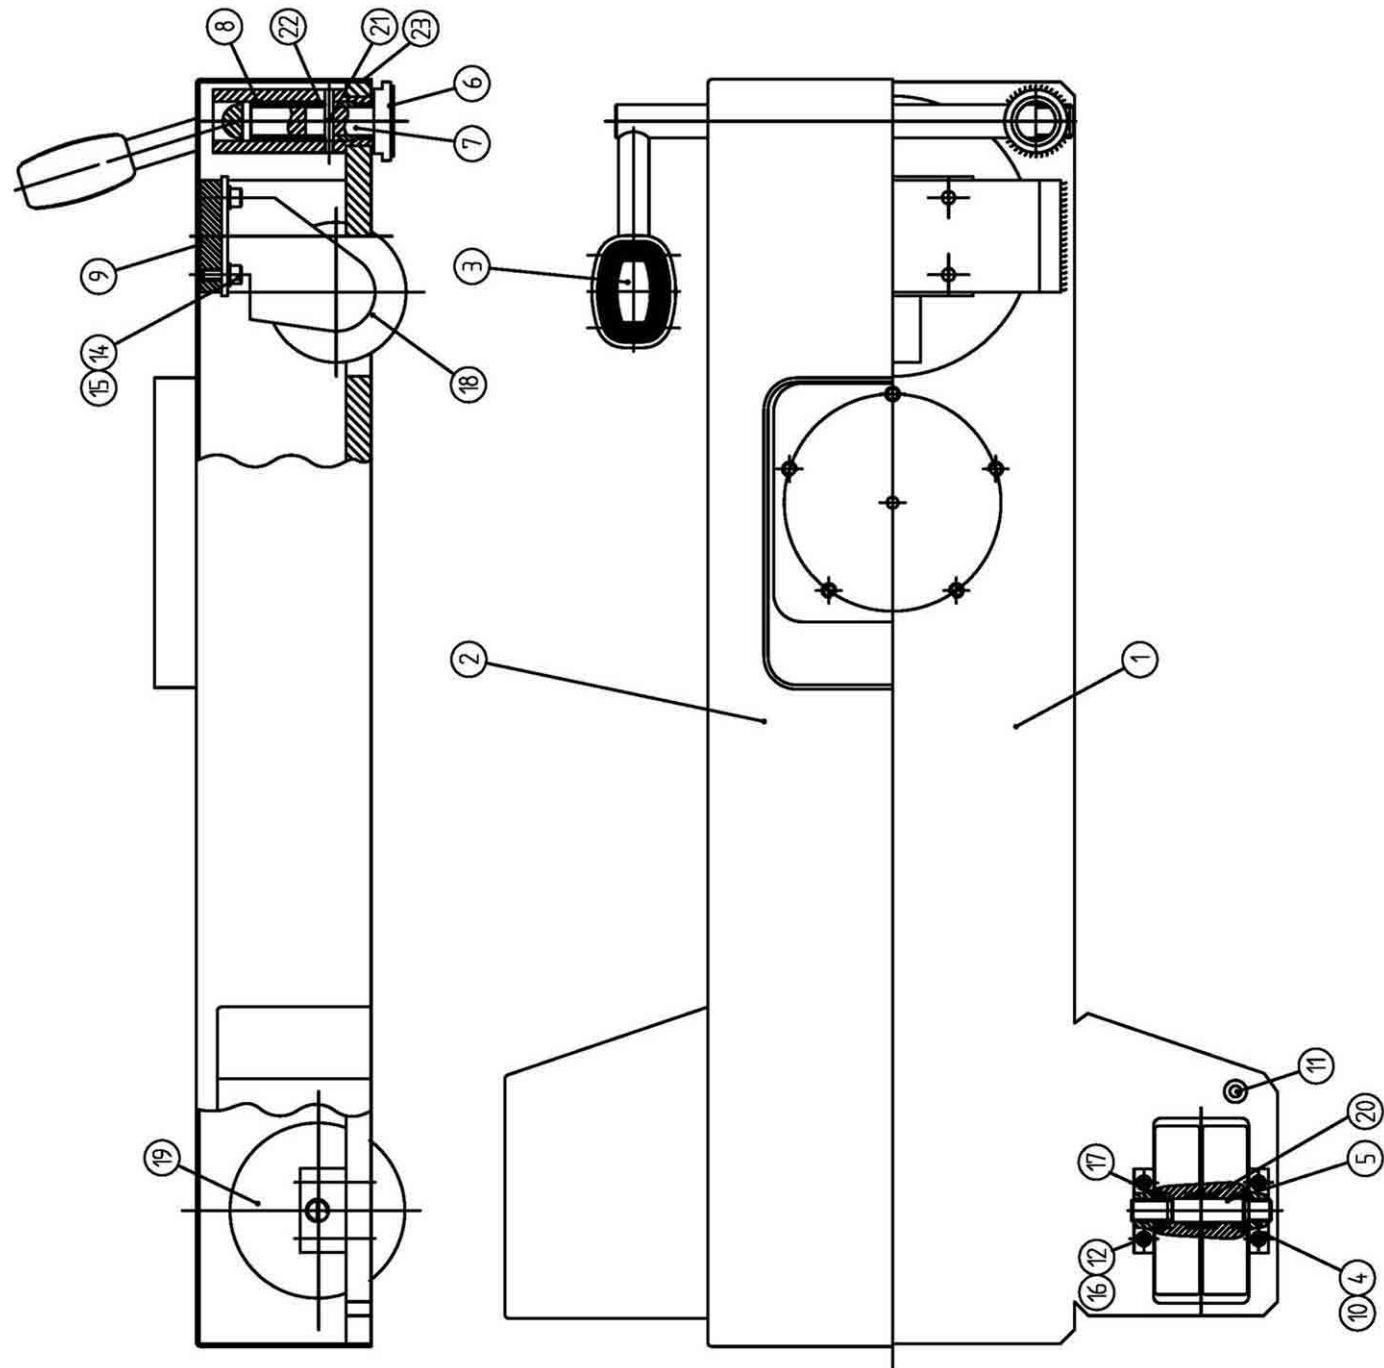

Fig. 12 Base of the table set (in standard version)
### Disassembly of rotating wheel (item 18 on fig. 12)
7. Unscrew M6 screws (item 11 on fig. 12).
8. Unscrew the lock pedal (item 3 on fig. 12) [turning it to the left] and remove it from the basis,
9. Lift the protection set (item 2 on fig. 12),
10. Unscrew M8 screws (item 14 on fig. 12) and remove them with the washers (item 15 on fig. 12),
11. Remove the wheel (item 18 on fig. 12).
### Assembly of rotating wheel (item 18 on fig. 12)
1. Put the wheel (item 18 on fig. 12) on the framework of the basis and screw M8 screws with washers (item 14, 15 on fig. 12),
2. Place the cover set (item 2 on fig. 12),
3. Screw the lock pedal (item 3 on fig. 12) (screw it to the right till resistance is felt and then unscrew by two rotations),
4. Screw M6 screws (item 11 on fig. 12) which fix the cover to the plate set (item 1 on fig. 12),
Disassembly of non-rotating wheel (item 19 on fig. 12)
1. Perform activities according to items 1 ÷ 6 of instructions for ‘Disassembly of a rotating wheel (item 18 on fig. 12)’,
2. Unscrew M6 screws (item 12 on fig. 12) and remove washers (item 16 on fig. 12),
3. Take out the wheel (item 19 on fig. 12) with brackets (item 4 on fig. 12),
4. Unscrew one of the two brackets (item 4 on fig. 12) and remove the wheel with the distance sleeve (item 10 on fig. 12) from the screw of the wheel (item 5 on fig. 12).
Assembly of non-rotating wheel (item 19 on fig. 12)
1. Put the wheel with distance sleeves (item 10 on fig. 12) on the screw of the wheel (item 5 on fig. 12),
2. Screw the bracket (item 4 on fig. 12) on the screw of the wheel (item 5 on fig. 12),
3. Put the wheel (item 19 on fig. 12) in the basis,
4. Place washers (item 16 on fig. 12) and screw M6 screws (item 12 on fig. 12)
Perform activities according to items 2 ÷ 7 of instructions: ‘Assembly of a rotating wheel (item 18 on fig. 12)’.